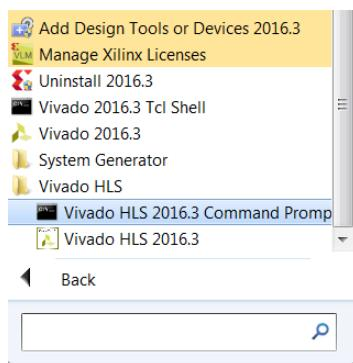

Figure 7-1: Vivado HLS Command Prompt
- On Windows use **Start > All Programs > Xilinx Design Tools > Vivado 2018.3 > Vivado HLS > Vivado HLS 2018.3 Command Prompt** (Figure 7-1).